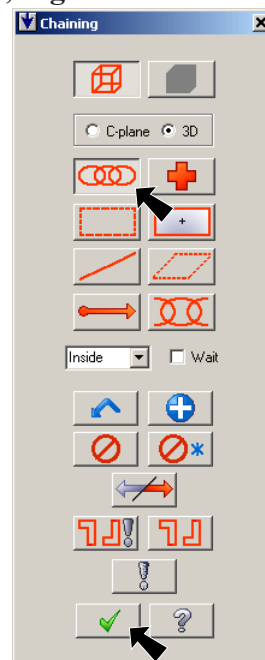

Fig. 12
Step 2. Click Chain in the Chaining dialog box, **Fig. 12**.